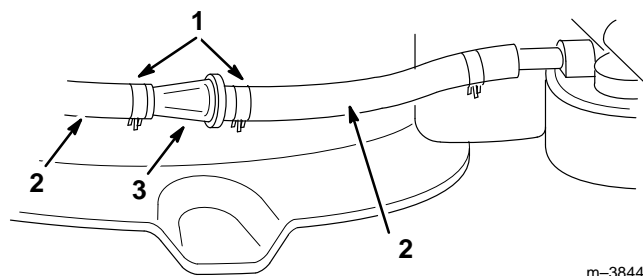

Figure 34
Replace the fuel filter after every 100 operating hours or yearly, whichever occurs first. The best time to replace the fuel filter (Fig. 34) is when the fuel tank is empty. Never install a dirty filter if it is removed from the fuel line.
1. Squeeze the ends of the hose clamps together and slide them away from the filter (Fig. 34).